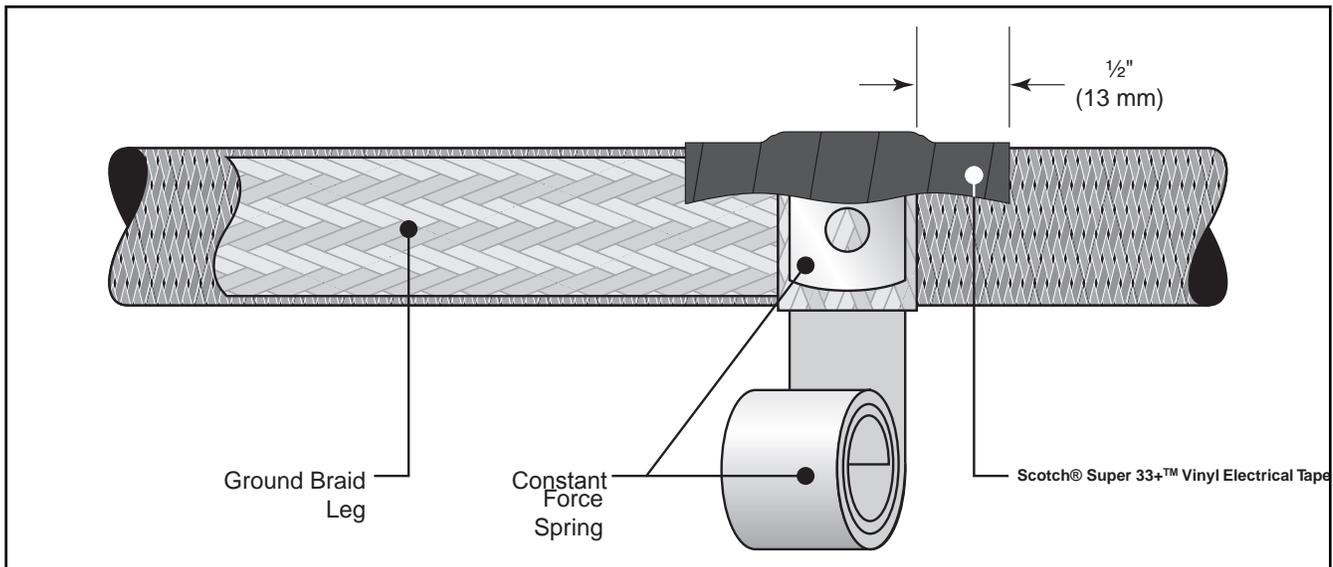

Figure 8
- Attach short (center) braid leg to the shielding using constant force spring, as shown. Wrap spring in the same direction as the ground braid. Cinch the last wrap of spring to tighten. (Figure 8.)
- Apply 2 half-lapped layers of Super 33+ Tape over spring and adjacent 1/2" (13 mm) of cable shielding. (Figure 8.)